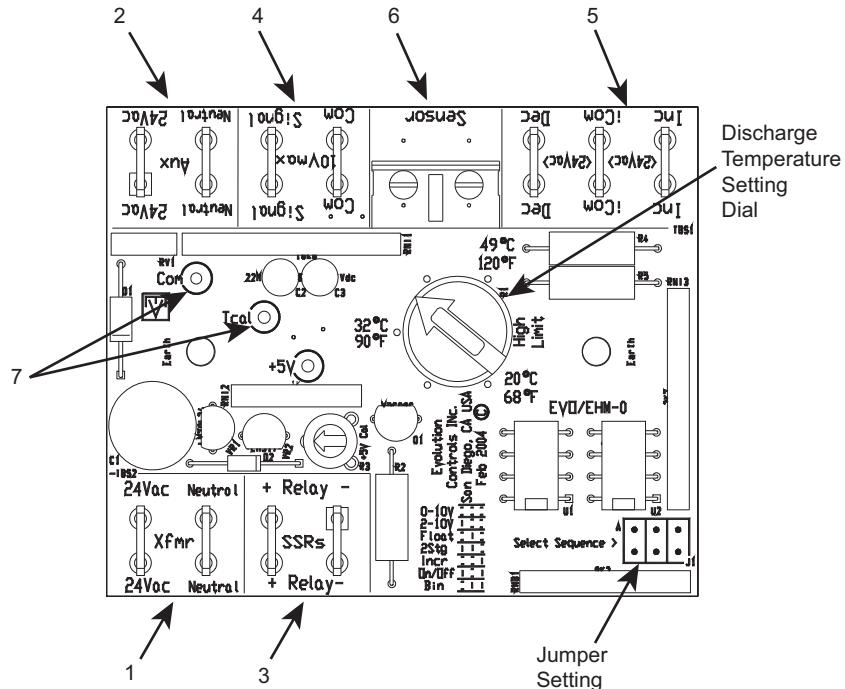
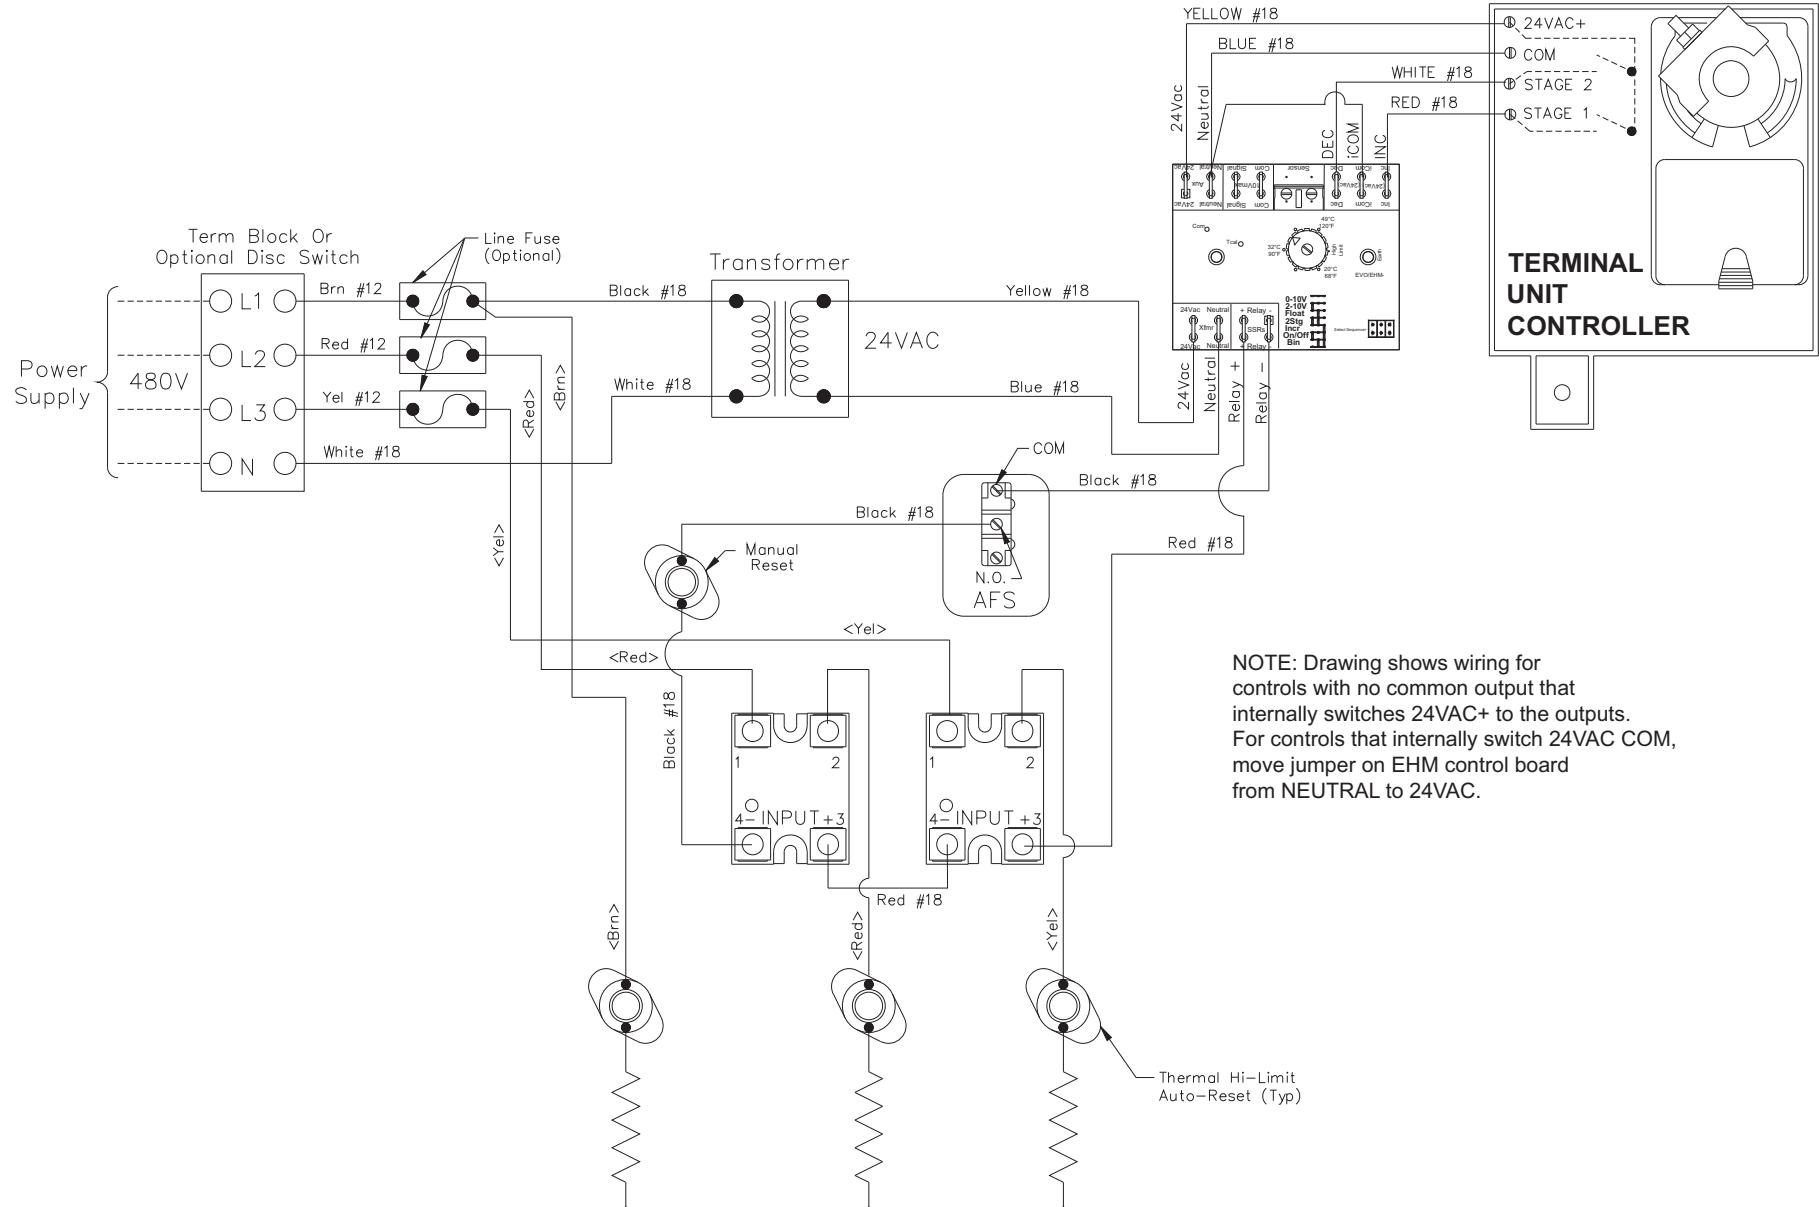

Fig. 15 — EHM Control Board
Fig. 23 – Sample Proportional SSR Heat Schematic
The Proportional SSR Heat board can be controlled and operated in 7 different ways. The units are ordered with an LXY code, where X is coded for unit power and Y is coded for the application (1-7). This Y application can be changed in the field. The application desired is chosen by placement of jumpers in the corner of board (see Fig. 15). The jumper settings shown in Table 9 represent the pins at the bottom corner of the control board as shown in Fig. 15. See Fig. 16-22 for application wiring diagrams.
See Fig. 15. The EHM control board is powered by 24 vac (Fig. 15, item 1) from the transformer in the electric heater. The EHM has auxiliary 24vac outputs (Fig. 15, item 2) that can be used to power the unit's electrical controls. Next to the "Xfmr" inputs are the "+" and "-" relay connections (Fig. 15, item 3) that control the solid state relays by sending pulses of ~25 vdc.
There are two terminations to use for dc volt control (Fig. 15, item 4) of the electric heat (applications LX3 and LX4). These are polar sensitive. The “+” signal from the controller must be connected to “Signal” on the EHM Control Board. The “-” from the controller must be connected to “Com” next to “Signal” (**not** “iCom”). A termination to “-” is possible, but not necessary, to measure mA signals to the board.
There are three terminations for 24 vac control (Fig. 15, item 5) of the electric heat (applications LX1, LX2, LX5, LX6, and LX7). "Inc" is for the increase signal in applications LX5 and LX7, as well as the first stage heat signal in applications LX1, LX2, and LX6. "Dec" is for the decrease signal in application LX7, as well as the second stage heat signal in applications LX2 and LX6. A connection to "iCom" is necessary for all of these 24 vac applications. If the unit's controller does not have a common output, a jumper to the correct "Aux" terminal can be used. If the unit controller outputs the "24vac" side from its input power, a jumper should be made from "Neutral" to "iCom" (see sample schematic, Fig. 23). If the unit controller outputs the "Neutral" side of its input power, a jumper should be made from "24vac" to "iCom".
Neither the jumper settings nor the controls wiring needs to be changed when this option is installed. The EHM control board will detect if a sensor has been connected, and it will adjust the control function accordingly. The sensor wires are connected to the screw terminals at the Sensor (Fig. 15, item 6) location on the
The desired discharge temperature is set by rotating the discharge temperature set point dial arrow to the maximum outlet temperature desired. To fine-tune the discharge temperature set point, connect the positive and negative leads of a multimeter to Tcal and Com (Fig. 15, item 7), respectively, on the EHM. Then place a jumper between the two screw heads on the sensor termination. Rotate the discharge temperature set point dial until the desired voltage per temperature is obtained. See Table 10. After the voltage is obtained, the EHM board must be reset. To reset the board, remove the jumpers and then place back in correct position.
- a. If using applications LX3 and LX4, confirm the positive vdc connection is wired to the "Signal" terminal, and the negative vdc connection is wired to the "Com" terminal. See Fig. 15.
- b. If using 24vac, confirm the wires are terminated correctly at (5) with a connection at "iCom". See Fig. 15. If an "Aux" terminal (Fig. 15, item 2) on the EHM has been jumpered to "iCom", make sure that the opposite 24vac input is output at the controls (see Fig. 23 for one example).
"4-" VDC terminal of the relay. If two relays are used in the heater, the relays are daisy-chained from "4-" to "+3" together. See Fig. 23 for one example.